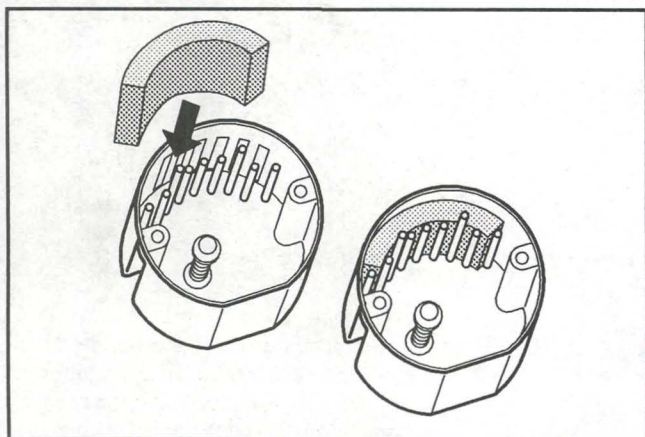

Fig. 27
1. Remove the air filter from the carburetor/air filter cover assembly (Fig. 27).